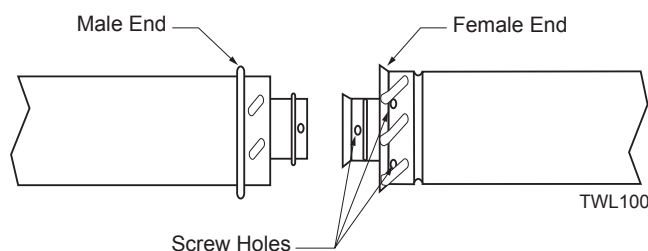

**Figure 11 -
To join twist lock pipes together, simply align the beads of the male end with the grooves of the female end, twisting the pipe until the flange on the female end contacts external flange on the male end. It is recommended that you secure the joints with three (3) sheet metal screws, however, this is not mandatory with twist lock pipe. *Figure 11*